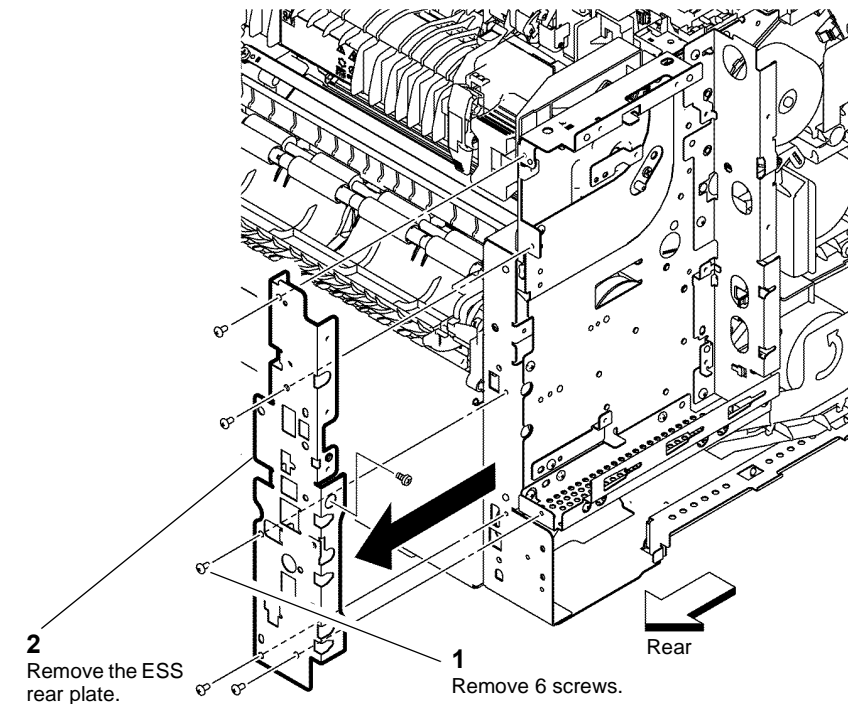

Figure 1 ESS rear plate
3. C400 devices only, remove the ESS rear plate, Figure 1.